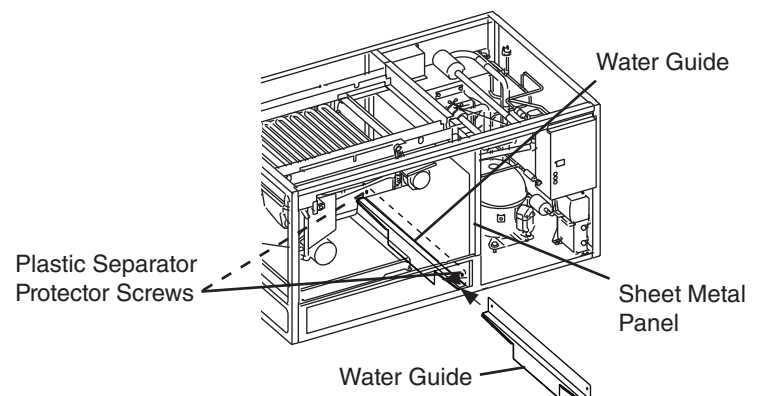

**Fig. 5b**
- 14) Secure the bin control bracket to previous assembly holes. Place the bin control assembly to the bracket at desired height, use thumbscrews to secure in place. See Fig. 5b.